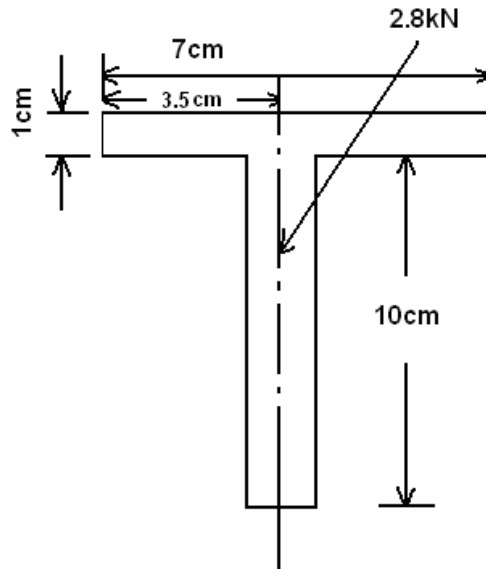

Fig .1
- b) A simply supported beam of length 1.6 m carries a central load of 2.8 kN inclined at 40° to the vertical and passing through the centroid of the section as shown in fig.1. Determine: